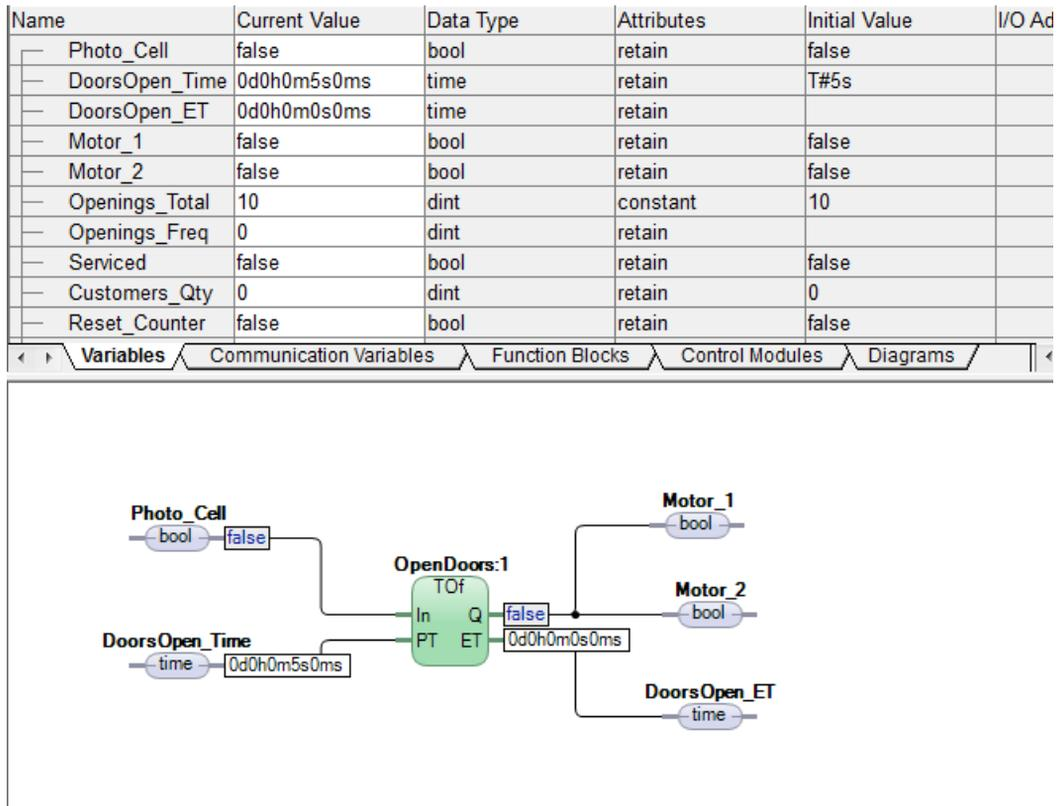

Figure 30. The Diagram editor in Test mode.
5. Open **Motors\_Doors** page. All variables in **Diagram2** are listed in the upper pane and the diagram appears in the lower pane, see Figure 30.